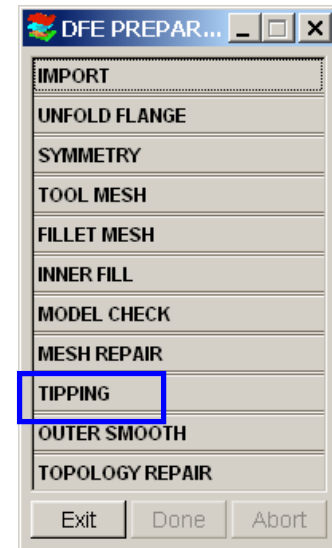

Figure 4.7
- Select **TIPPING** (Figure 4.7)